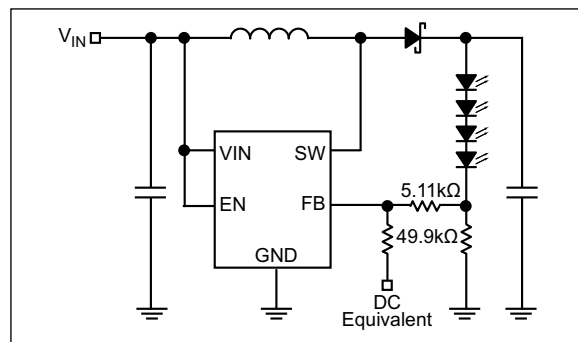

FIGURE 5-2: Continuous Dimming.
2. Continuous dimming control is implemented by applying a DC control voltage to the FB pin of the MIC2287 through a series resistor as shown in Figure 5-2. The LED intensity (current) can be dynamically varied applying a DC voltage to the FB pin. The DC voltage can come from a DAC signal or a filtered PWM signal. The advantage of this approach is a high frequency PWM signal (>10 kHz) that can be used to control LED intensity.